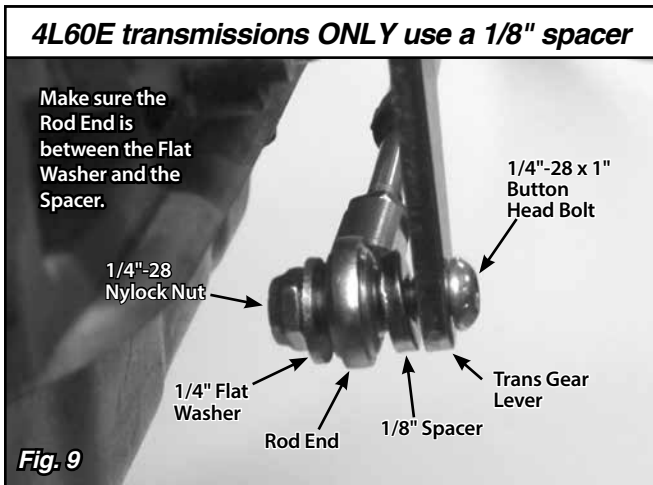

Fig. 9
**NOTE: 4L60E transmissions ONLY: Install the 1/8" spacer (provided) between the rod end and the trans gear lever. Fig. 9**